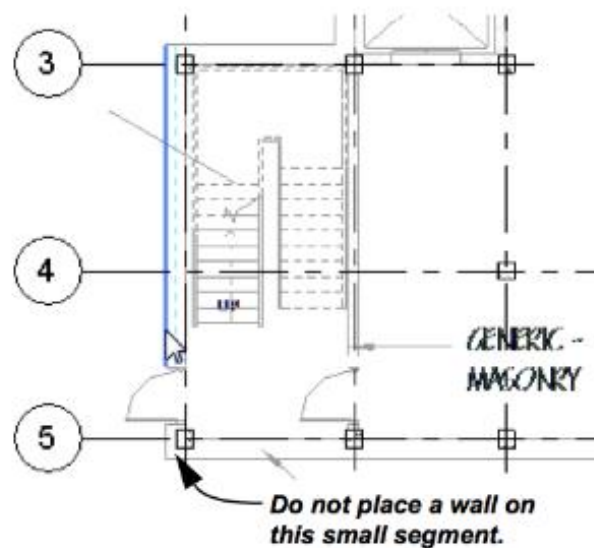

Figure 4–15
8. Select one of the exterior walls in the imported file, as shown in Figure 4–15. Ensure the dashed line displays inside the wall. This wall is a compound wall and you want the brick to display on the outside.